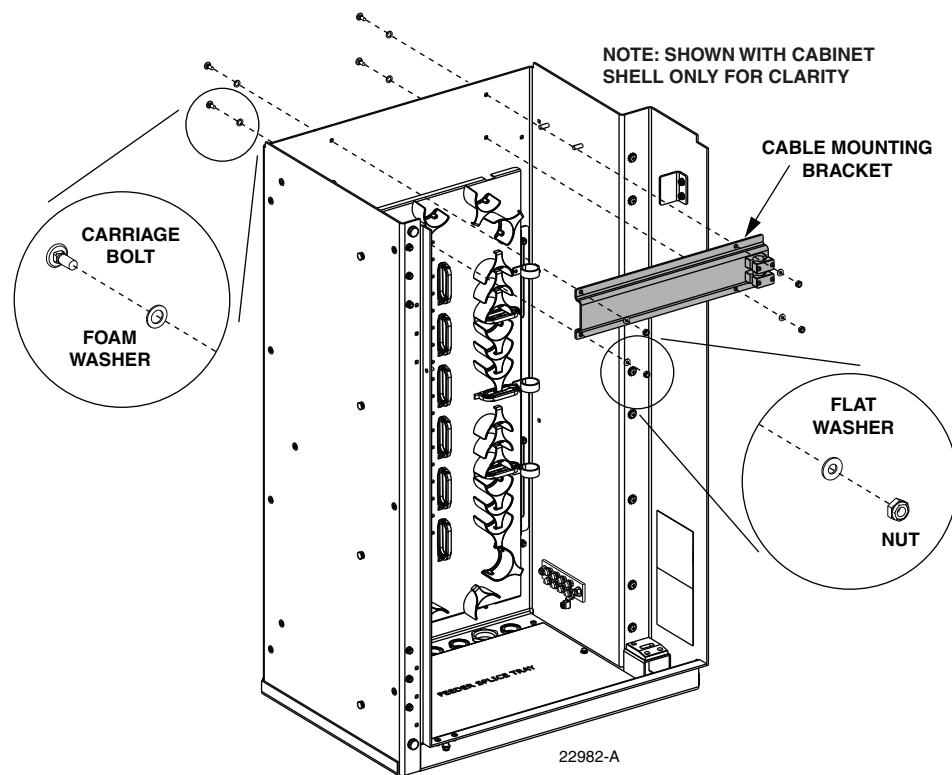

Figure 29. Locate and Remove Cable Mounting Bracket
5. Locate the cable clamp bracket that is mounted at the upper back side of the cabinet as shown in Figure 29.
7. Remove the cable mounting bracket from the cabinet (see Figure 29).